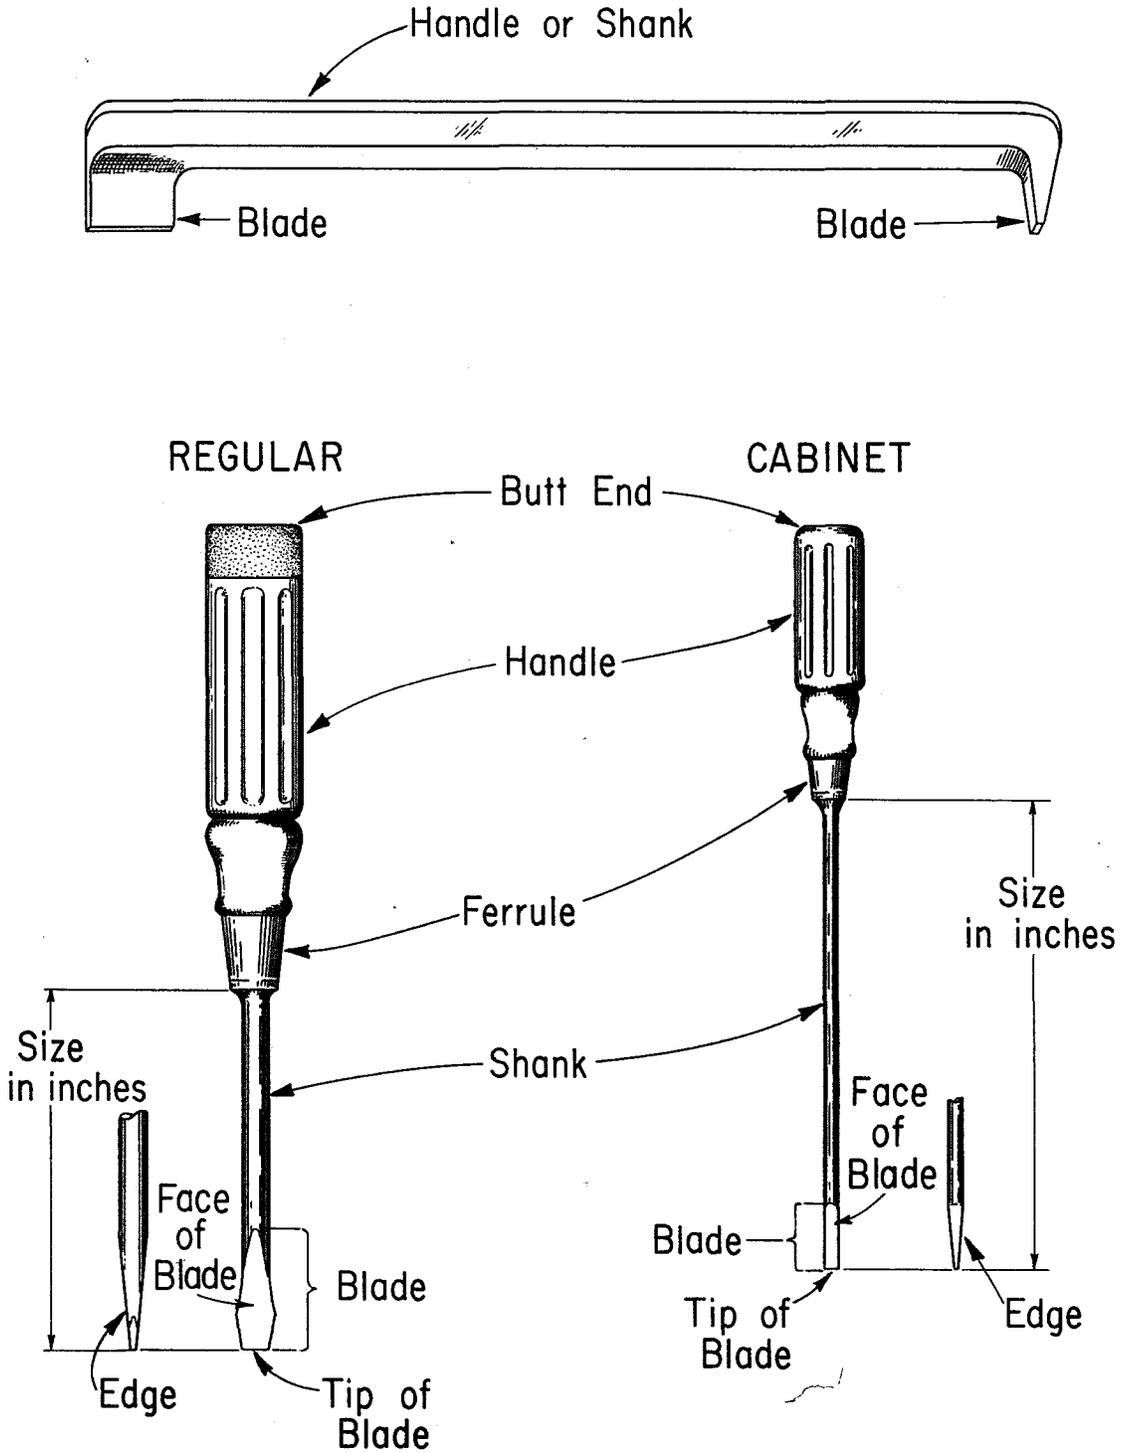

Fig. 1
- 2.02 Fig. 1 illustrates the regular, cabinet and offset screwdrivers.
- 2.03 The offset screwdrivers have either one or two blades which project perpendicular to the handle or shank. The angles, however, that are listed in the Bell System Practices for the various types of offset screwdrivers are determined by the angle formed by the face of the blade and the handle (Fig. 1 illustrates a 90° offset screwdriver).